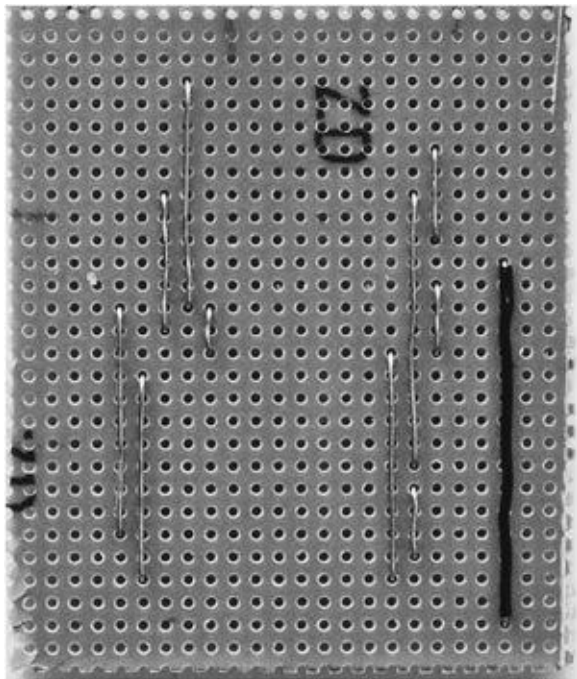

Figure 9-7 The stripboard with links
The next step is to solder the wire links onto the board (Figure 9-7). Again, there are a lot of these (11), so take care that you have made all of them and got them all in the right places.